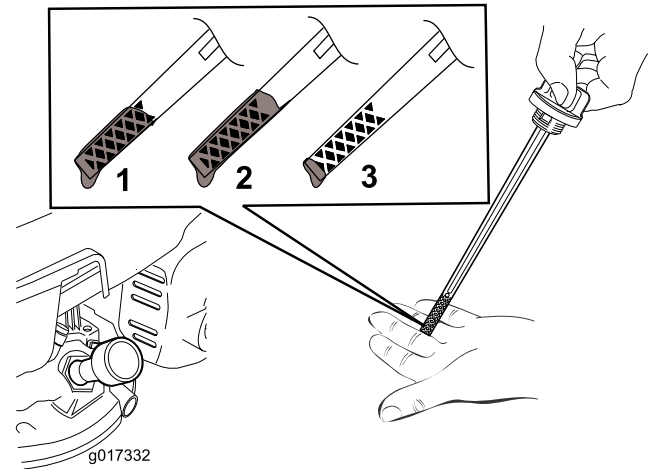

Figure 11
5. To determine the proper oil level on the dipstick, refer to Figure 11).
**Note:** Fill the engine crankcase with oil until the dipstick indicates that the engine oil level is correct as shown in Figure 11. If you overfill the engine with oil, remove the excess oil as directed in Changing the Engine Oil.